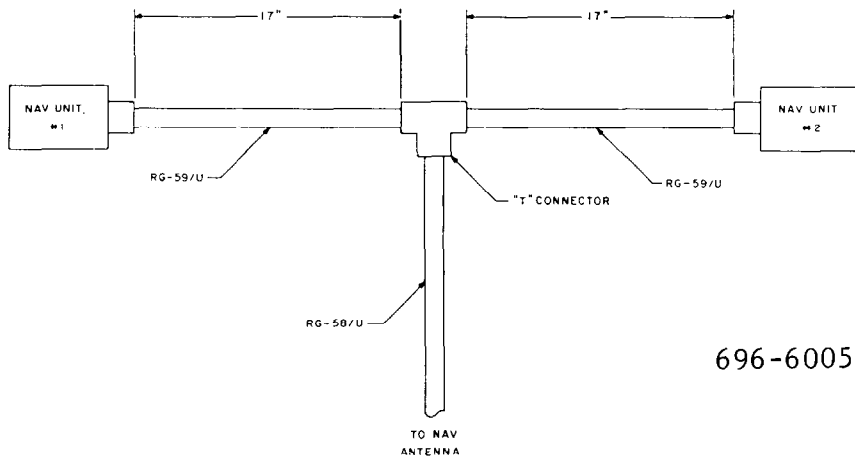

FIGURE 2-4 DUAL OMNI ANTENNA INSTALLATION
- (c) Refer to Figure 2-4 for a dual omni antenna installation if two navigation receivers are used. VOR antenna duplexers normally cause a 3db signal loss.